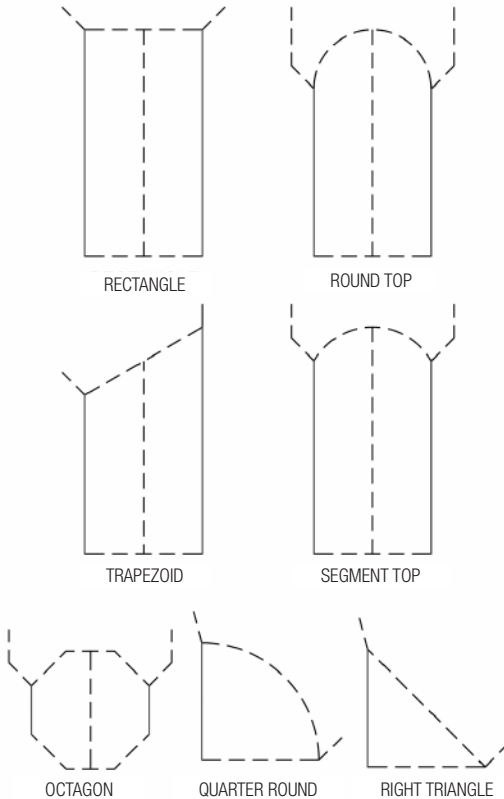

FIG. 5b
- J) Optional cutting patterns for radius and geometric shapes are shown in (Fig. 5b)